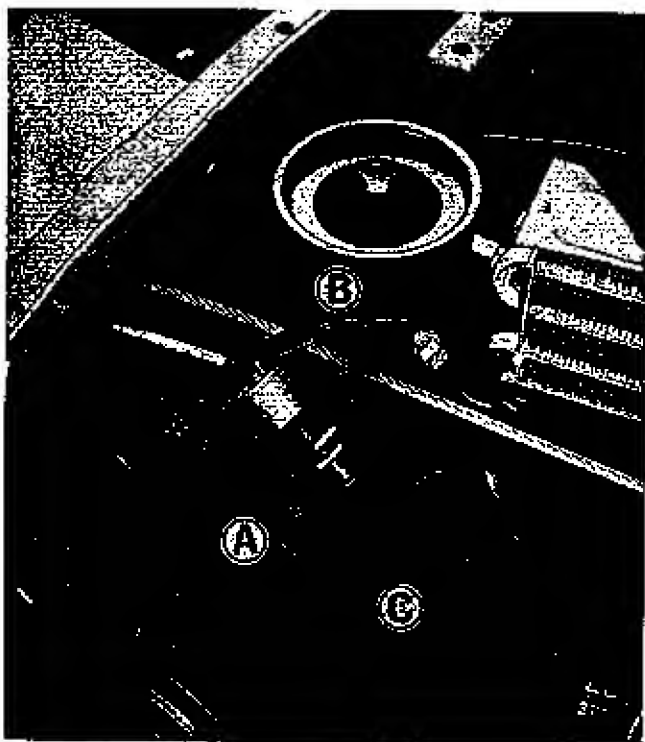

Figure 14. Neutral safety start switch located under seat deck.
3. See figure 14. The neutral safety start switch is properly adjusted when it is centered on pointer (C) and depressed about 1/16" to 1/8". The two nuts (A) may be turned clockwise or counter-clockwise to lower or raise the safety switch and bracket (B) is slotted to allow it to be centered on pointer (C). After adjusting the neutral safety switch place a film of grease on pointer (C) where it contacts the switch.
4. Tighten the two nuts (A) against mounting bracket (C).